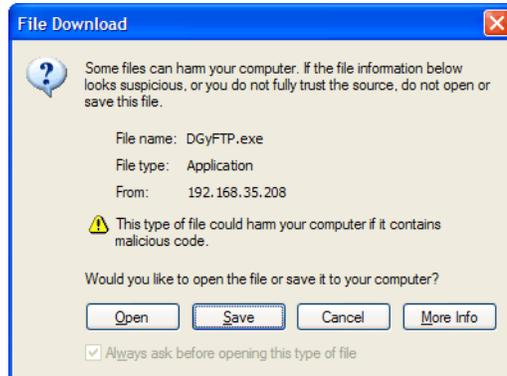

Figure C-2 File Download Warning
2. Click on **DGy FTP** to open the client. A file download dialog similar to the one shown in Figure C-2 will open.